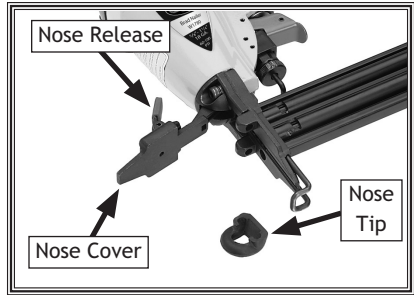

Figure 6. Nose opened to clear a jam.
4. Open the nailer nose by removing the rubber nose tip, squeezing the nose release mechanism (**Figure 6**), and opening the nose cover.